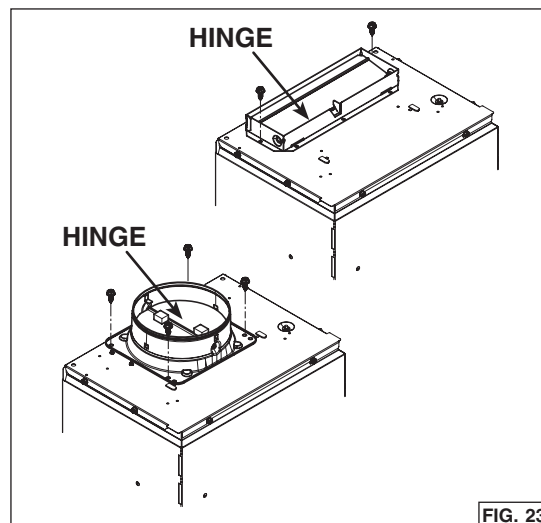

FIG. 23
9. For rectangular ducting, use 2 included no. 8-18 x 1/4" metal screws to attach the included 3 1/4" x 10" adapter damper on top of the unit, over the blower exhaust opening (FIG. 23).
For round ducting, use 4 included no. 8-18 x 1/4" metal screws to attach the included 6-in. round adapter damper on top of the unit, over the blower exhaust opening (FIG. 23).